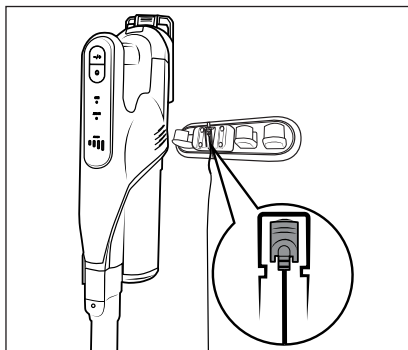

Fig. 6
- ◆ Place the vacuum cleaner in the wall bracket **17** from above so that the barrel plug **10** slips into the charging socket **2** on the bottom of the appliance. The battery indicator **26** starts flashing and the charging process starts (see Fig. 6 and 7).